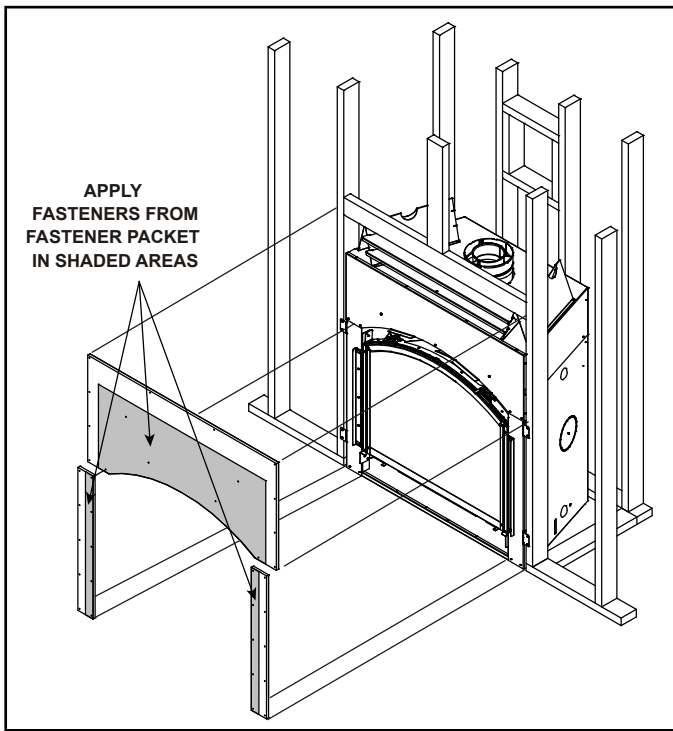

Figure 6.3 Attaching Non-combustible Facing Material
- Center and attach top board to the framing members (see Figure 6.3).
- Use fasteners from fastener packet (in manual bag) in shaded areas (Figure 6.3).
- Use regular sheetrock screws in non-shaded areas (see Figure 6.3).
- Attach the left and right side pieces to the framing members. (See Figure 6.3).